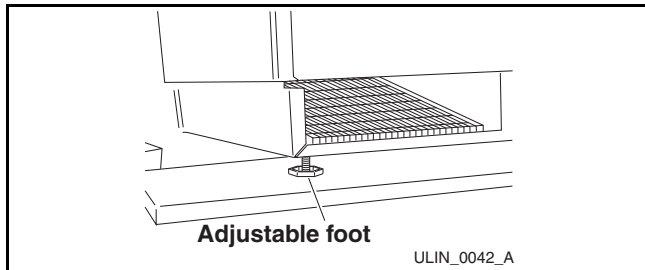

Figure 10
2. If the unit is not level, adjust the feet on the corners of the unit as necessary (**Figure 10**).